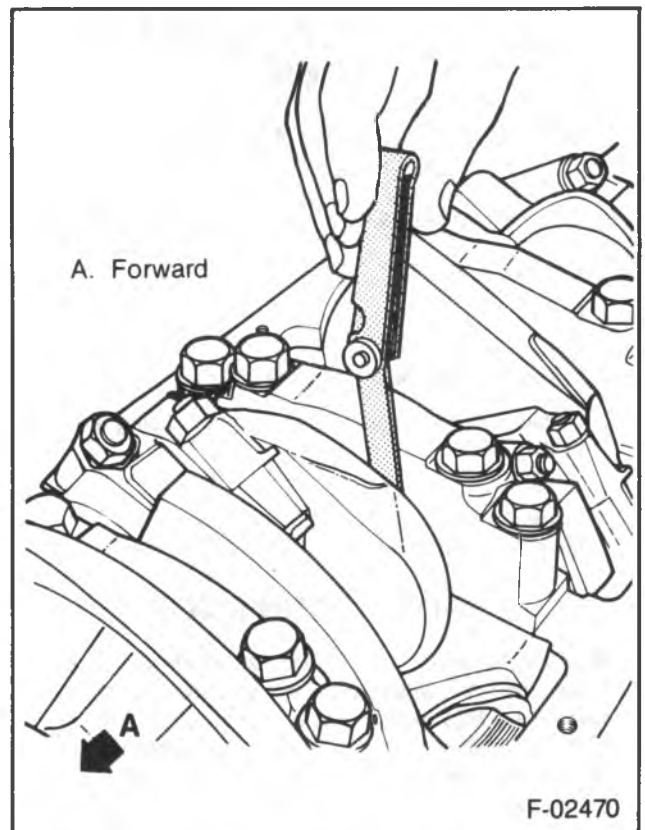

Figure 30 — Measuring Crankshaft Endplay
- With the crankshaft forced forward, measure at the front end of the number 3 main bearing with a feeler gage (figure 30). The proper clearance is 0.10-0.25 mm.